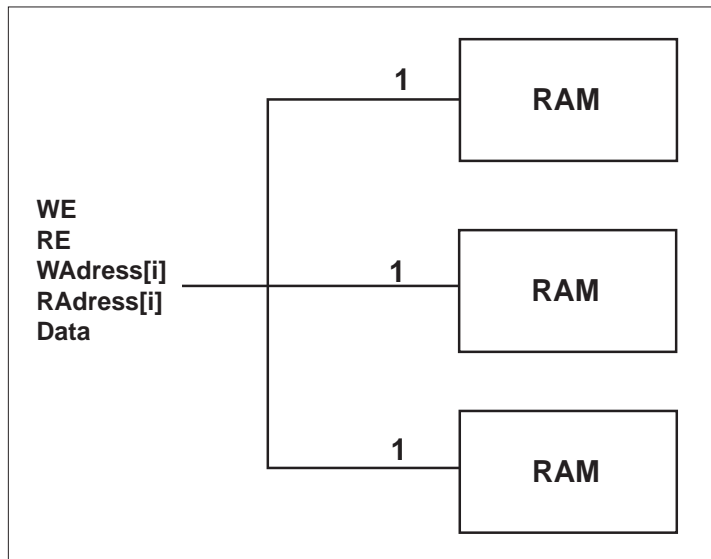
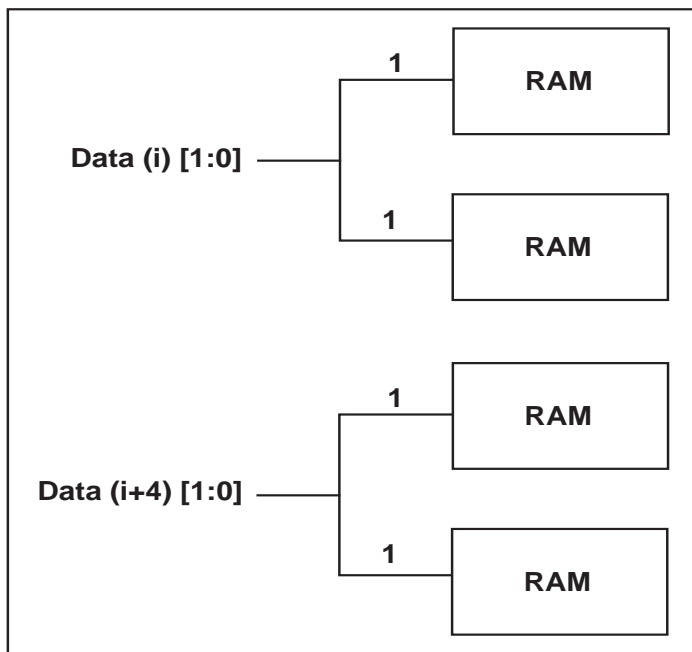

Figure 5. Manual Buffering (96x8 RAM Configuration)
Figure 6. Manual Buffering for the Data Bus (128x8 RAM Configuration)
Figure 5 shows how manual buffering is done. A fanin of one (1) is enforced on all signals fanning out to more than one RAM cell. If these signals were broadcasted to all RAM cells, very slow routing resources (long freeways) would be required to route the signals impacting the RAM performance.
ahead of time that you need to use this scheme to meet your timing goals. In this architecture, the idea is to not buffer the signals internally but rather give some kind of access to the RAM macro internal signals. Then, you must buffer the signals outside the macro and either use traditional buffers or duplicate the logic that drives these signals externally. If manual buffering is chosen, the *WE*, *RE*, *Waddress(i)*, *RAddress(i)* and *Data[i]* signals become busses external to the macro. For all these signals, the bus width is equal to the number of RAM cells (used to build a given configuration) driven by each signal. Figure 5 illustrates the manual buffering architecture for a 96x8 RAM configuration, built of three 32x8 configured RAM cells. In this configuration, the *WE*, *RE*, *WAddress* and *RAddress* signals drive all RAM cells simultaneously. Figure 6 shows a 128x8 RAM configuration, built using four 64x4 configured RAM cells. In that configuration, the 8-bit data bus is split into two completely independent 4-bit data busses.